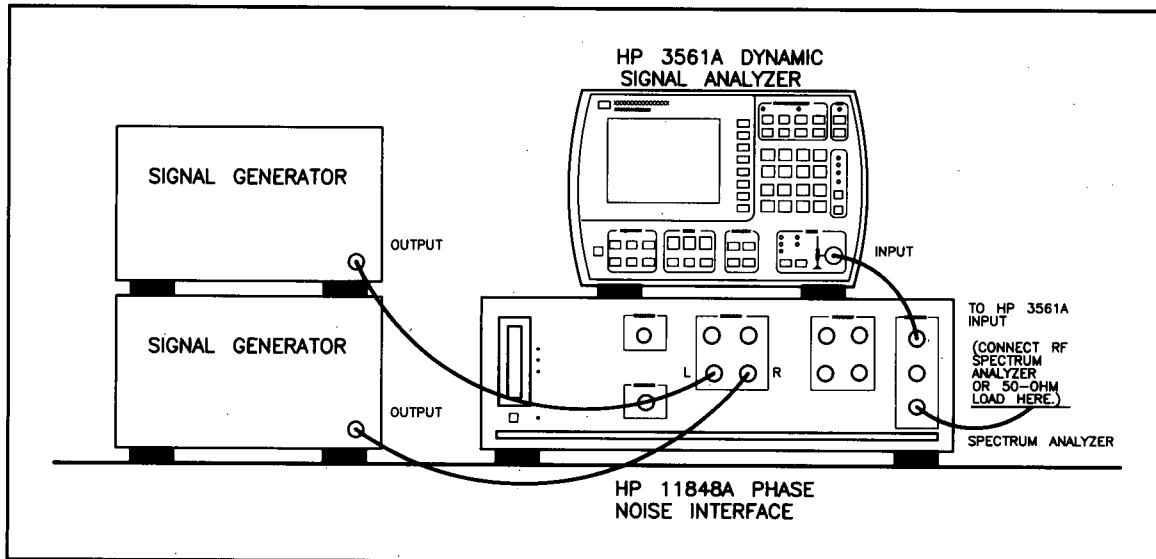

Figure 9. Microwave Phase Detector Conversion Loss Test Setup
1. Two signal sources and the spectrum analyzer are connected to the Interface as follows. (Refer to Figure 9.)